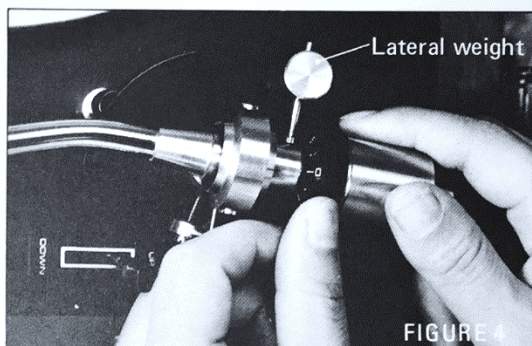

FIGURE 4
8. Mount the counterweight by slipping it onto the rear of the tone arm (See Figure 4) and turning it counter-clockwise (viewed from the front).